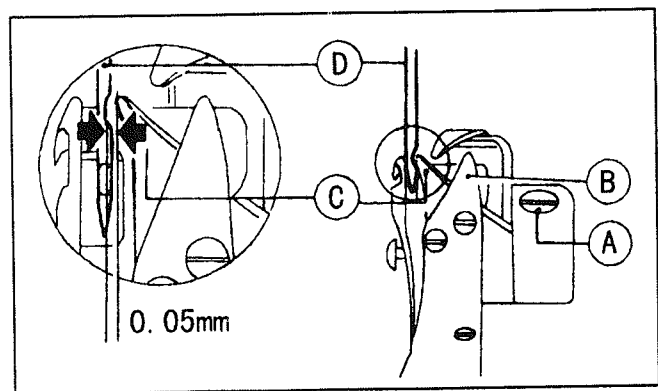

图 21
When adjusting the hook point timing, also notice that the clearance between the bottom of needle notch and Hook Point (C) should be approx. 0.05mm (See Fig.21)